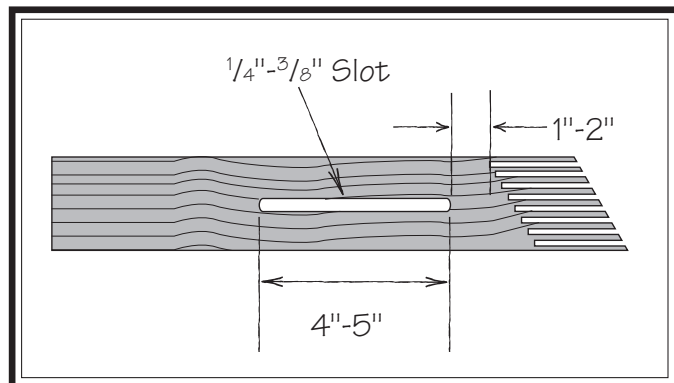

Figure 84. Slot routed in featherboard.
4. Rout a $\frac{1}{4}$ "- $\frac{3}{8}$ " wide slot 4"-5" long in workpiece and 1"-2" from short end of featherboard (see **Figure 84**).